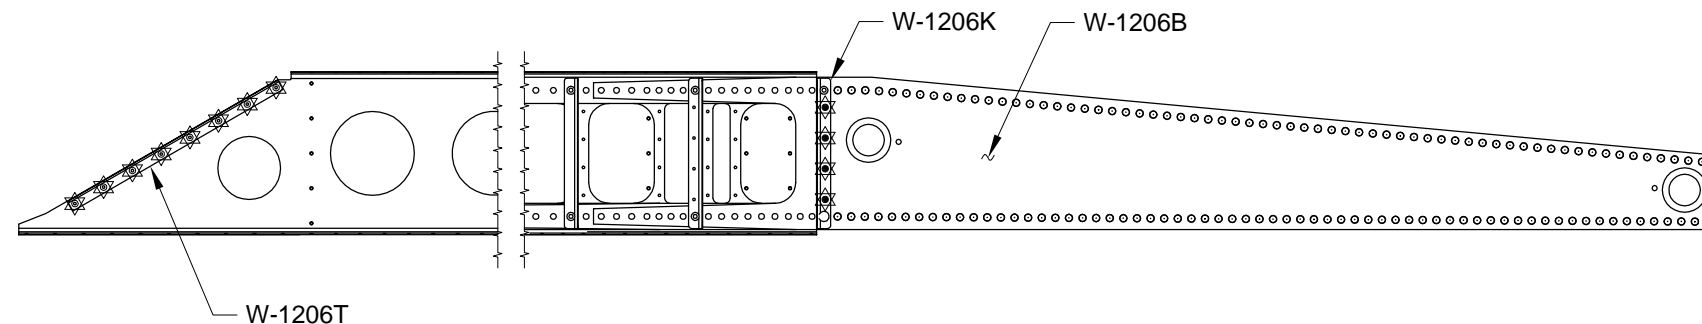

FIGURE 2:
Step 3: Rivet the W-1206T Attach Angle to the W-1206-R Spar Assembly channel. Rivet the inboard most W-1206K Attach Angle, which comes attached to the right spar assembly, to the W-1206B Spar Stub Doubler as shown in Figure 2.